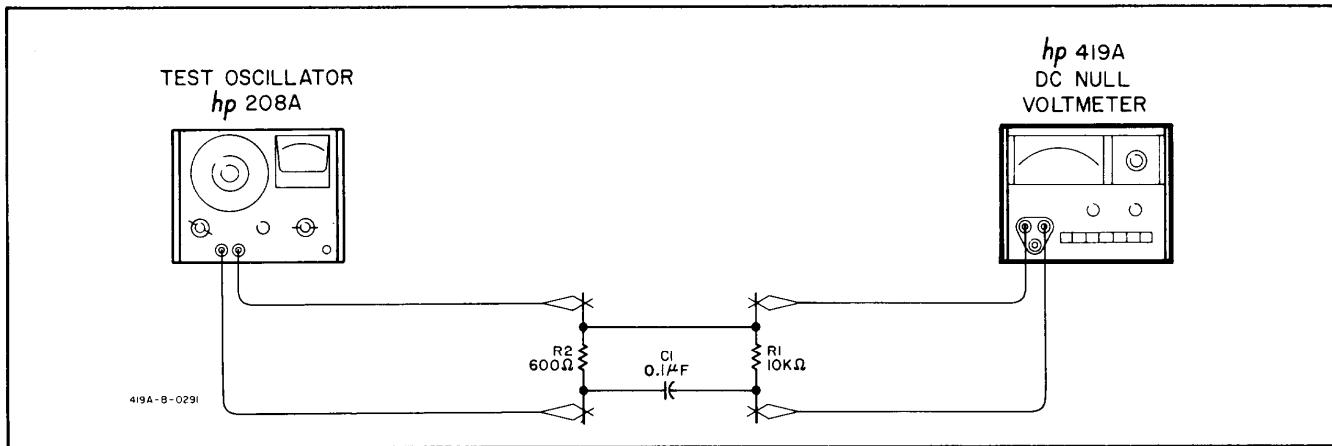

Figure 5-3. Superimposed AC Rejection Performance Test Setup
5-16. The superimposed ac rejection test setup is illustrated in Figure 5-3. An oscillator (-hp- Model 208A), a 600 Ω resistor (-hp- Part No. 0727-0081), a 10 k Ω resistor (-hp- Part No. 0684-1031), and a 0.1 μ F capacitor (-hp- Part No. 0170-0085) are required for this test.
- Connect test setup illustrated in Figure 5-3; do not connect oscillator.